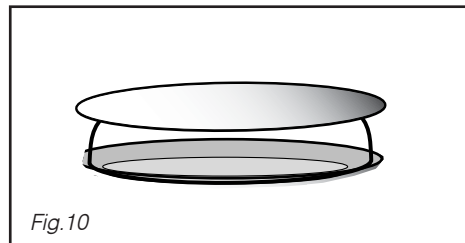

Fig.10
• **The spécial microwave plate cover (Fig.10) :**